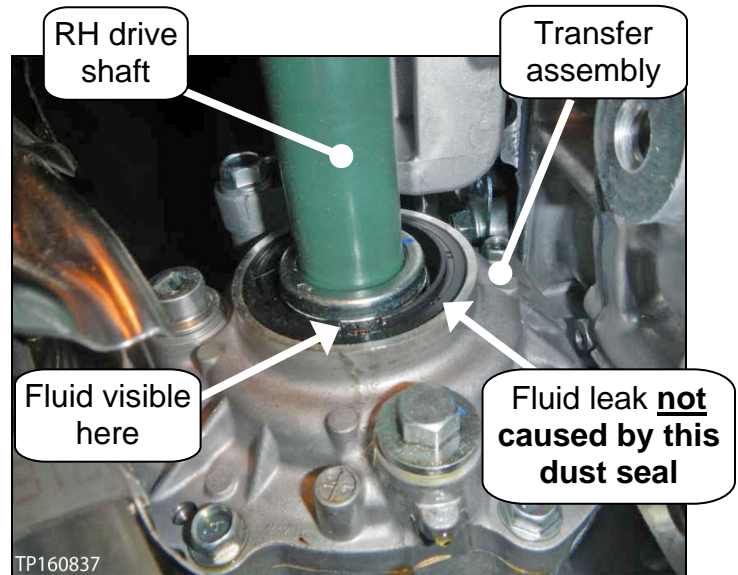

Figure 1
**NOTE:** The fluid leak is NOT caused by the dust seal shown in Figure 1.